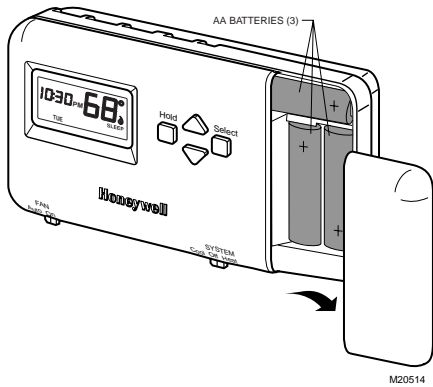

Fig. 13. Installing batteries.
- ❑ Remove the battery door, located on the right side of the thermostat, by pulling outward from the bottom. See Fig. 13.
- ❑ Insert three AA alkaline batteries as shown in Fig. 13.